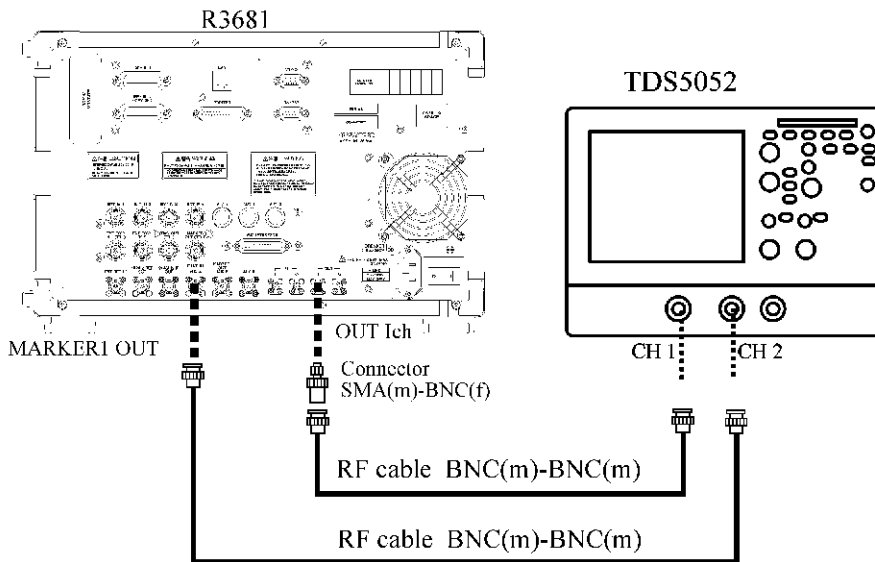

Figure 8-1 Connection Diagram for MARKER1 OUT Output Waveform Verification
2. Connect the instruments as shown in Figure 8-1.